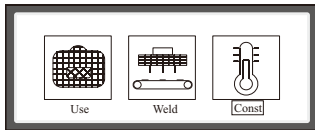
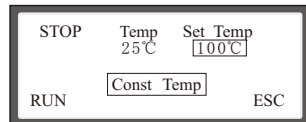

Fig. 15
Fig. 16
(5) Press “SET” Button to switch “Heat Preservation” to highlighted state, and press “PAGE DOWN” button to switch to “cooling”. Press “SET” Button again to switch “TEMPERATURE” to highlighted state. Press “PAGE UP” button and “PAGE DOWN” button to conduct the setting of “TEMPERATURE” as shown in Fig. 15. The heat preservation setting range shall be lower than the soldering temperature. “TIME” setting is not available under cooling mode and its default value is 00:00.
After pressing “POWER SUPPLY”, “PRODUCTION” is highlighted. Press “PAGE DOWN” button to switch “CONSTANT TEMPERATURE” to highlighted state, which means being selected as shown in Fig. 15. Press “RUN” button to confirm entry as shown in Fig. 16. Press “PAGE UP” button and “PAGE DOWN” button to conduct temperature setting. Press “RUN” button to run and Press “SET” Button to exit.